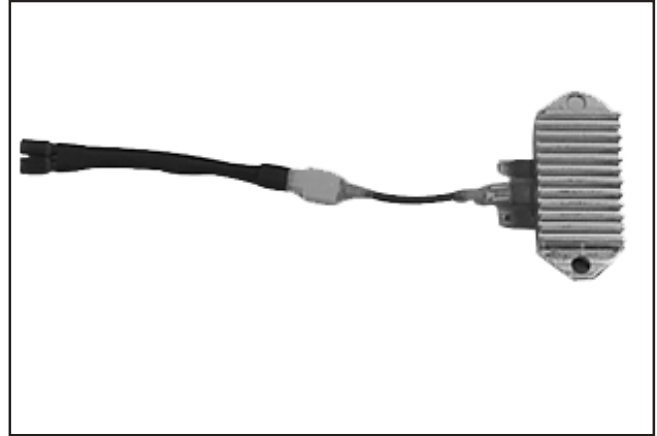

Figure 8-28.
1. Connect the single lead adapter in between the B+ (center) terminal of rectifier-regulator being tested and the squared single end of the tandem adapter lead. See Figure 8-28.